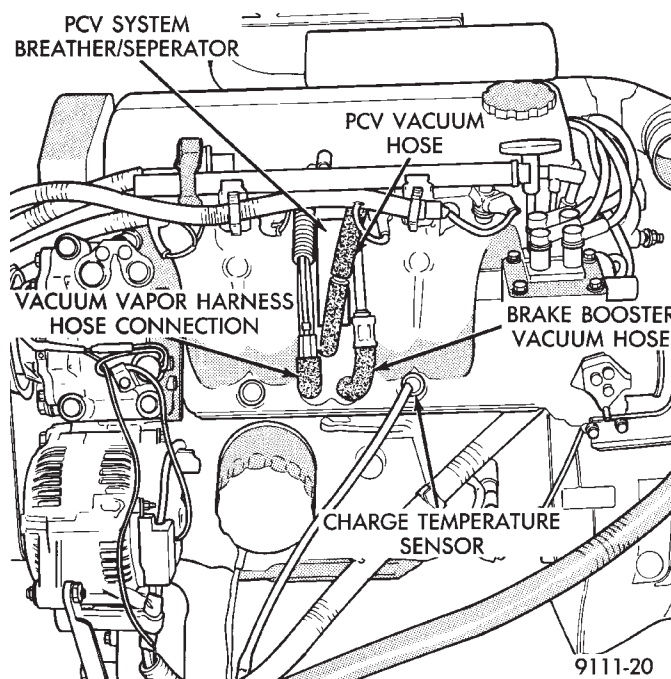
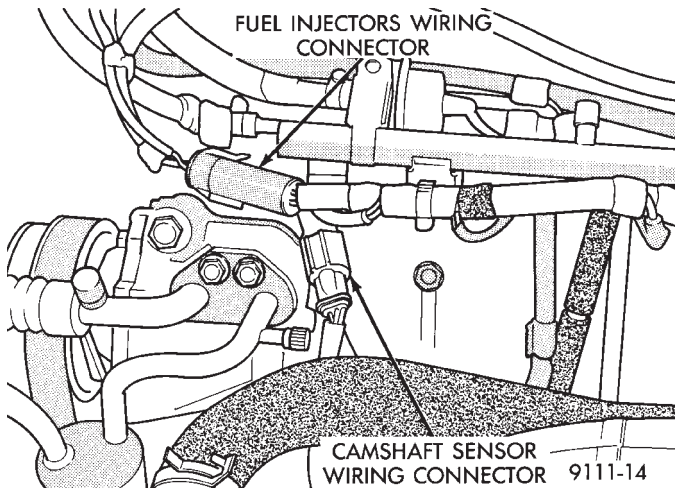

Fig. 7 Intake Manifold Electrical and Vacuum Hose Connections
Fig. 8 Camshaft Sensor and Fuel Injectors Wiring Connectors
- (9) Remove PCV Breather/Separator box and vacuum harness assembly. Remove brake booster, vacuum vapor harness and fuel pressure regulator harness from intake manifold (Fig. 7).
(10) Disconnect Fuel Injector Wiring Connector (Fig. 8). Charge Temperature Wiring Connector (Fig. 7).
(2) Install PCV Breather/Separator box and vacuum harness assembly. Connect brake booster, vacuum vapor harness and vacuum hose to fuel pressure regulator (Fig. 7).
(4) Connect Fuel Injector (Fig. 8), and Charge Temperature Sensor wiring connectors (Fig. 7).